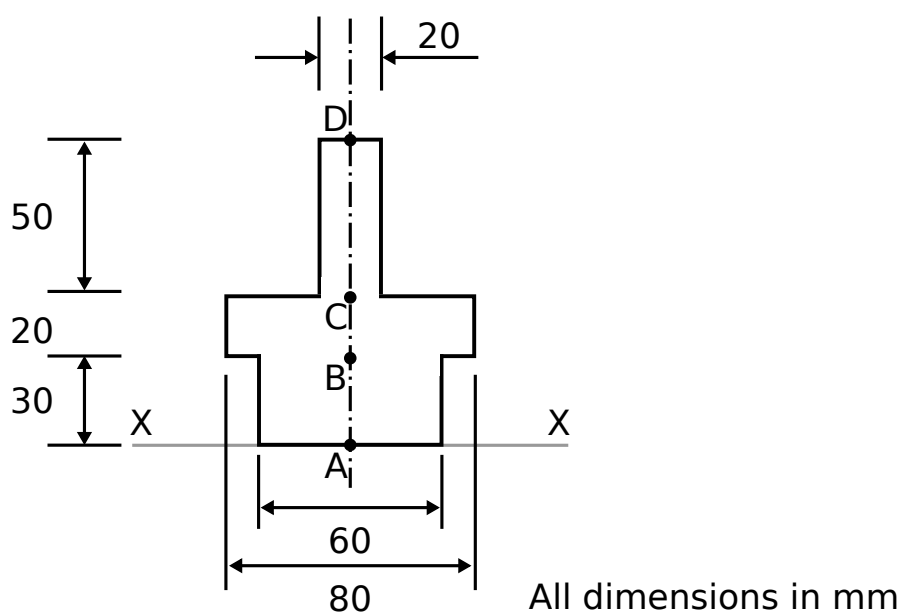

Figure Q4
4. The cross-section shown in Figure Q4 carries a shear force, $S = 45\text{kN}$ down the vertical centre line.